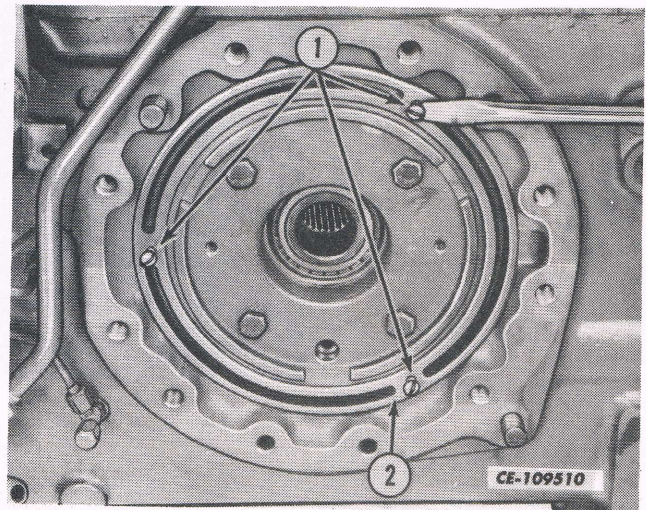

Fig. 3.
6. Install screws in the three tapped holes provided in the brake piston (2). Using a screwdriver, pry on the underside of the screw heads equally all the way around to remove the brake piston (2). See Fig. 3